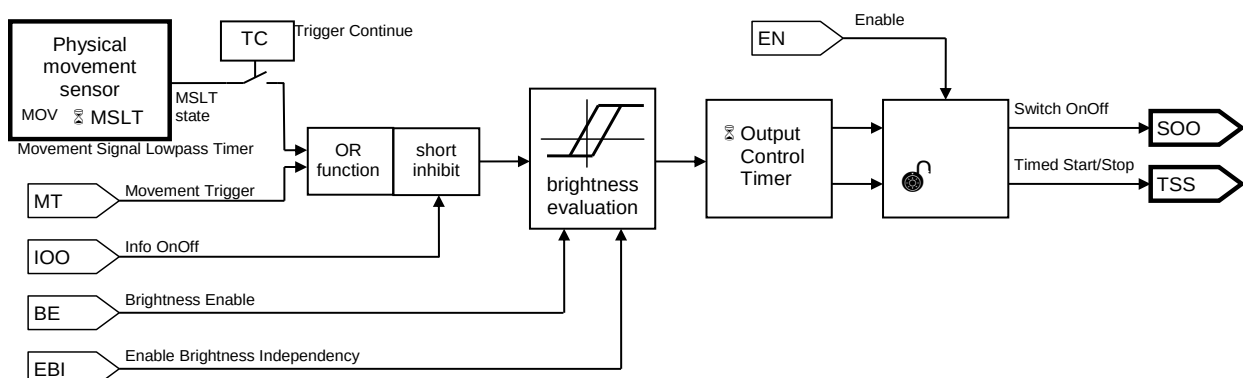
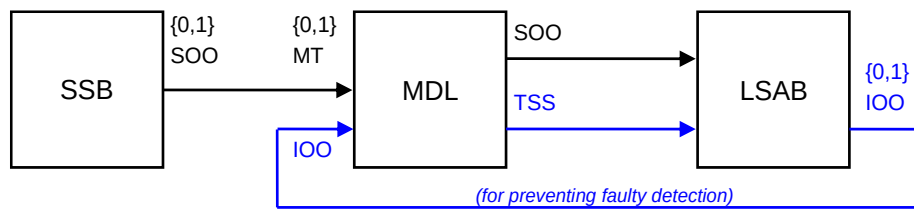

Figure 33 – Possible design of FB Movement Detector for Lighting
Figure 37 – USE CASE 6 – solution 2
Figure 33 gives a possible design; alternative solutions are possible as well.
2. The Input MT may also be evaluated elsewhere in the functional scheme of the FB MDL (Figure 33). The Input MT can be implemented so that it directly controls the transmission of the Outputs SOO or TSS, without further evaluation of timers or the brightness. This allows solving USE CASE 6 as in Figure 37.